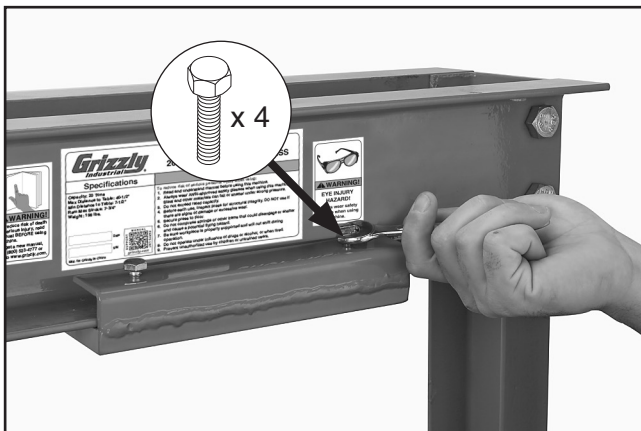

Figure 5. Securing ram mounting plate to cross beams.
4. Secure ram mounting plate in center of cross beams using (4) M8-1.25 x 16 hex bolts through pre-drilled holes in mounting holes (see **Figure 5**).